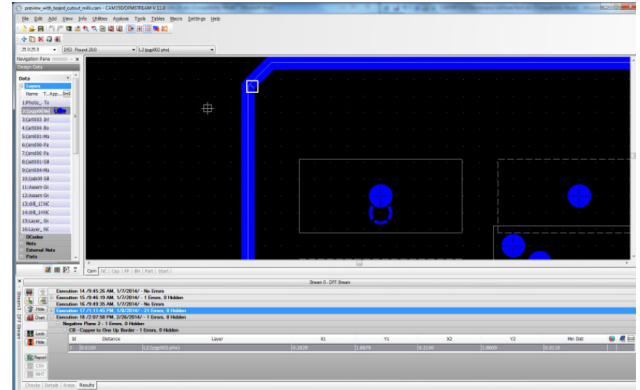

Abbildung 6: Negative Plane - Board Outline spacing
- Board Outline Spacing (Abb. 6)